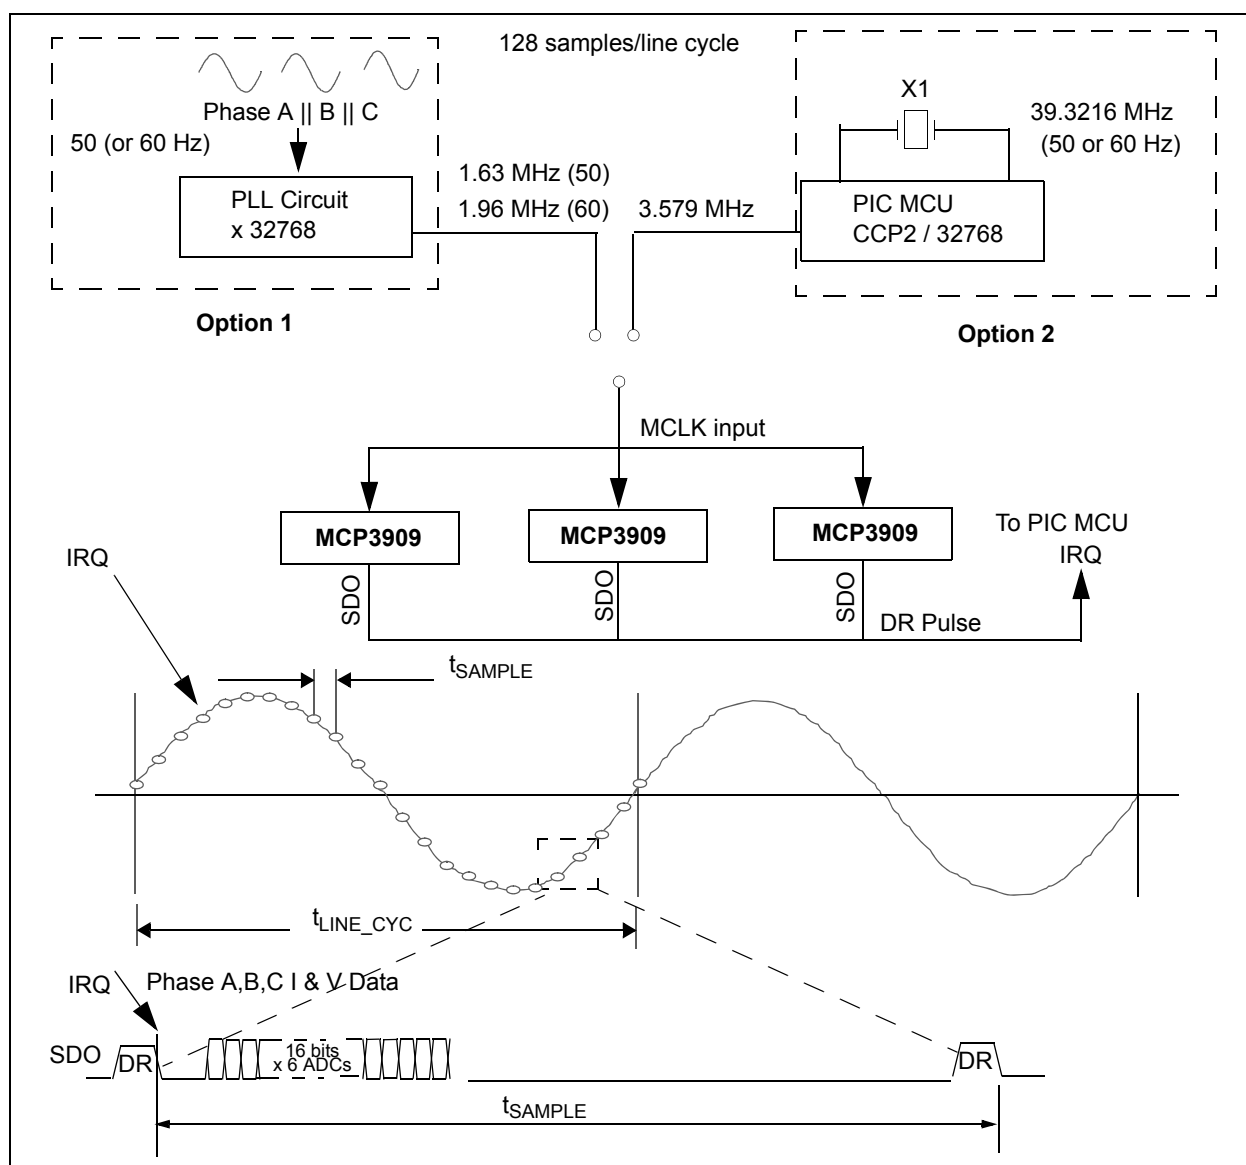

FIGURE 6-2: Using the PIC device to control the MCP3909 MCLK to achieve 2^N samples per line cycle, 3-phase sampling shown with 6 ADCs
In most energy meter applications, it will be necessary to have 2^N samples for each 50 or 60 Hz line cycle, where N is typically 64, 128 or 256. Controlling the MCLK of the MCP3909 allows you to control the sample rate and ultimately the data ready (DR) pulses for coherent waveform sampling. The following scheme shows how the TIMER and COMPARATOR modules of the PIC MCU can be used to generate the clock for the MCP3909 from either a PLL internal MCLK. For class 0.2 or class 0.1 meter designs that require harmonic analysis using a PLL is recommended to shift sample rate with line cycle drift, e.g. line cycle changes from 60 Hz to 59.1 Hz. This is shown as option 1 in Figure 6-2.
Figure 6-2 shows example clock frequencies to achieve 128 samples for each line cycle, 1.63 MHz for a 50 Hz line, or 1.96 MHz for a 60 Hz line. The MCP3909 clock can operate from 1 MHz to 4 MHz.